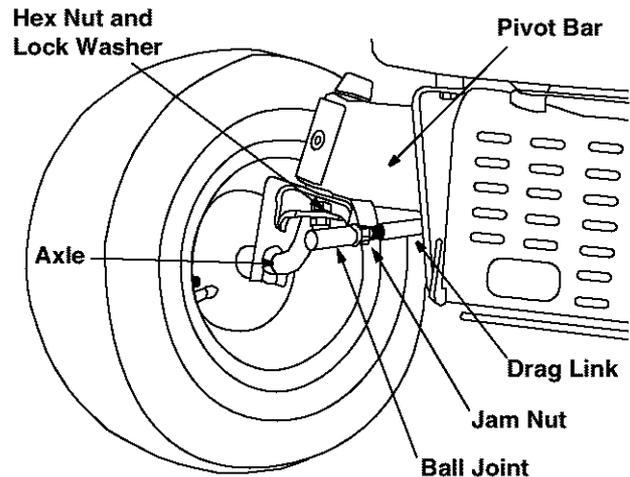

Figure 5
- Loosen the jam nut found on the drag link at the rear of the ball joint. See Figure 5.
- Remove the hex nut and lock washer on the top of ball joint. See Figure 5.